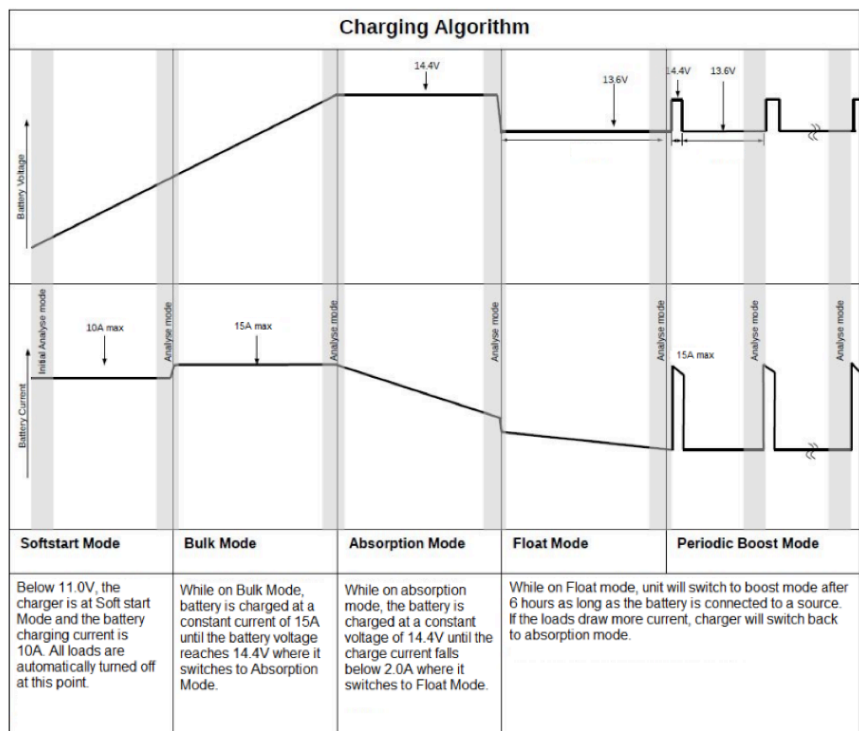

Figure 5: Charging Algorithm.
**J35** is a full battery management system with a multi-stage battery charger including bulk, absorption, float, and periodic boost charging modes to ensure long battery life. Charging current is limited to a maximum of 15A. Details of the charging process can be found in Figure 5: Charging Algorithm.
To maintain the battery in a good state of health, an intelligently controlled charging algorithm is used. The purpose is to ensure that the correct voltages are applied to the battery terminals at the appropriate times throughout its charging cycle. The basics of the charging algorithm are detailed in Figure 5: Charging Algorithm.